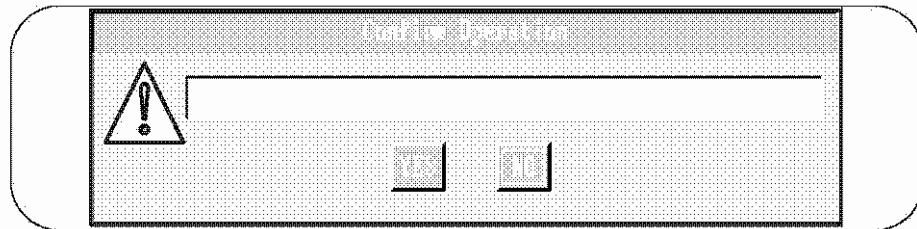

Figure 3-20: Confirm Operation Pop-up Screen
- Pressing the ENTER key to copy the file will display the Confirm Operation Pop-up Screen (*figure 3-20*) with the file name to be copied. Press the TAB key to select YES and press the ENTER key to copy the file. Press the TAB key to select NO and press the ENTER key to discontinue the copy function.
- Pressing the ENTER key to print the file will display the Confirm Operation Pop-up Screen (*figure 3-20*) with the file name to be printed. Press the TAB key to select YES and press the ENTER key to print the file. Press the TAB key to NO and press the ENTER key to discontinue the print function.